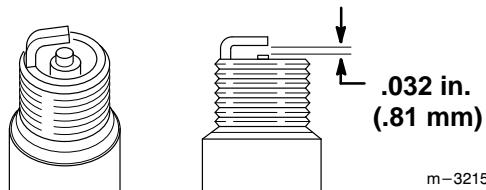

Figure 21
5. Set the spark plug gap (Fig. 21) between the electrodes to .032 in. (.81 mm).